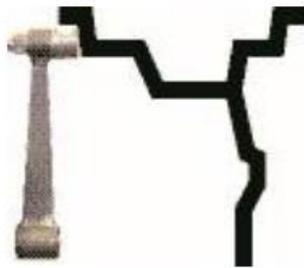

fig. 10.1.
10.2. This WB model is equipped with the device, allowing automatic input of the diameter («d») of the wheel and the distance («A»). To accomplish this, you need to use a handle to pull out a gauge from the housing of the WB, place the pin on the end of the handle against the position of the corrective weights placement on the inner side of the disc (fig. 10.1) and hold the gauge in this position until the audio signal goes off. After that, the gauge can be returned to the original position. The screen will switch from the main operating mode to the screen for input of the dimensions (fig 10.2).
**Note:** The diameter provided by the rim manufacturer shows the diameter for a tire. With the help of a gauge you can enter the diameter for spring-loaded weights placement (fig. 10.1), which is bigger than the diameter used for a tire by about 1 inch. Thus, the diameter entered by the means of a gauge will be greater than the rim/tire diameter provided by the rim manufacturer.